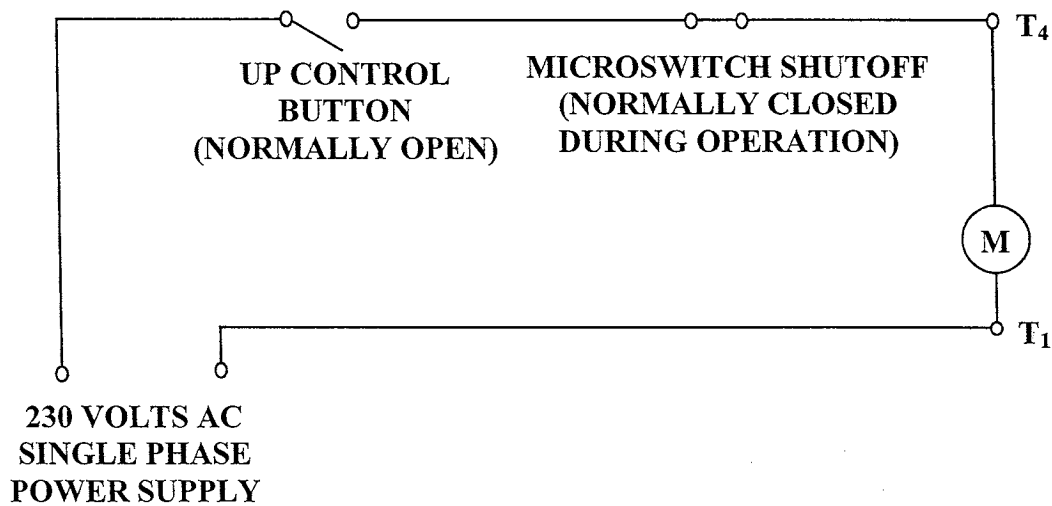

Figure 11 – Electrical Diagram
2. Bolt power pack to the mounting bracket on the power side tower using four (4) 5/16"-18UNC x 1"LG. hex head bolts, four (4) 5/16" ID lock washers, four (4) 5/16" ID flat washers and four (4) 5/16"-18UNC hex nuts. Do not tighten.
3. A **certified electrician** must connect the 230Volt/1Ph power to the motor. The electrical diagram is provided, refer to **Figure 11**.